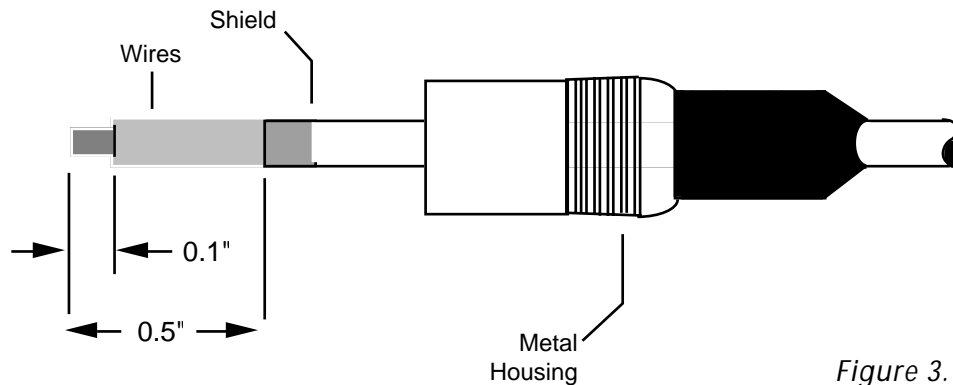

Figure 3. Cable Preparation
3. Slide the metal housing onto the cable of the remote scale base. (See Figure 3.)